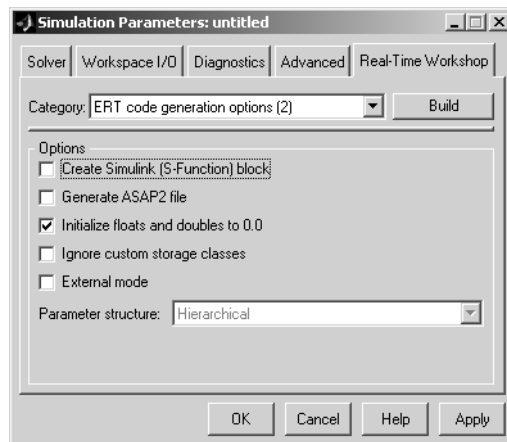
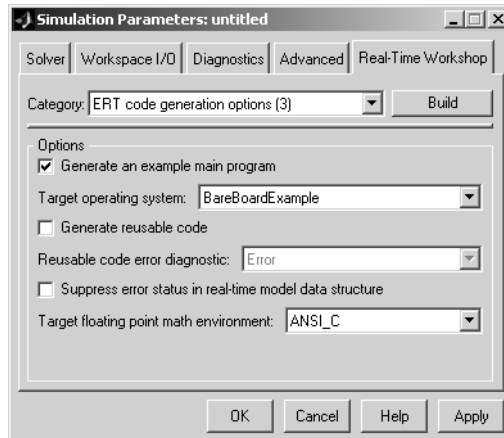

Figure 3-2: ERT Code Generation Options (2)
Figure 3-3: ERT Code Generation Options (3)
This section describes advanced Real-Time Workshop Embedded Coder code generation options. These options are found in the ERT code generation options (2) and ERT code generation options (3) items of the **Category** menu of the **Real-Time Workshop** tab of the **Simulation Parameters** dialog box. Figure 3-2 and Figure 3-3 display the advanced code generation options for the Real-Time Workshop Embedded Coder.